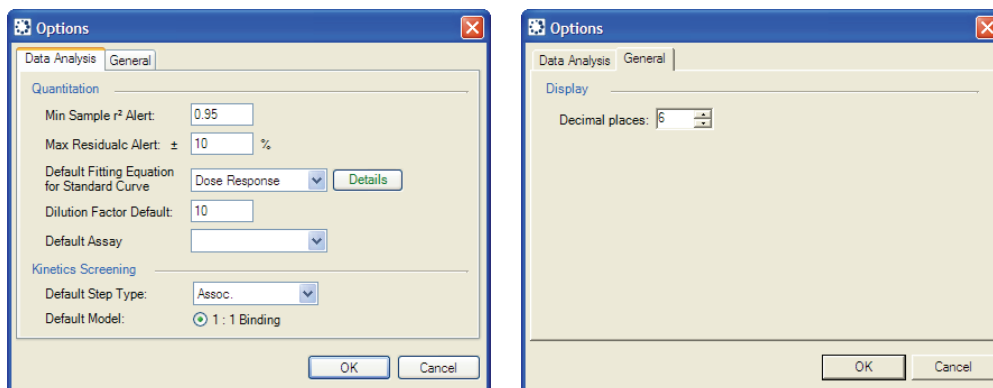

Figure 2.4 Options dialog box, Data Analysis tab (left), General tab (right)
2. In the Options dialog box that appears, confirm the defaults or enter new settings (Figure 2.4).